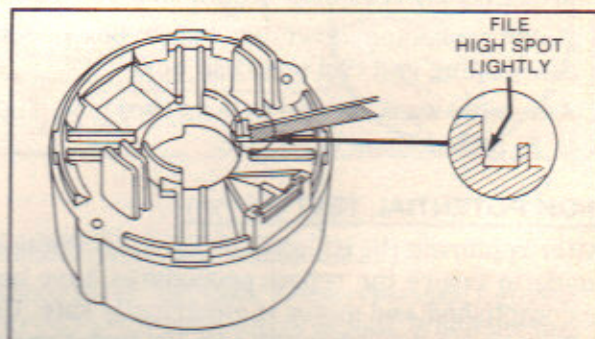

Fig. 2 — Brush Box Slots
- b. If brush does not move freely in brass holder or brush wear is not equal, the holder may be held too tightly in brush box slot. Scrape or file side of brush box slot lightly to remove high spots as shown in Fig. 2.